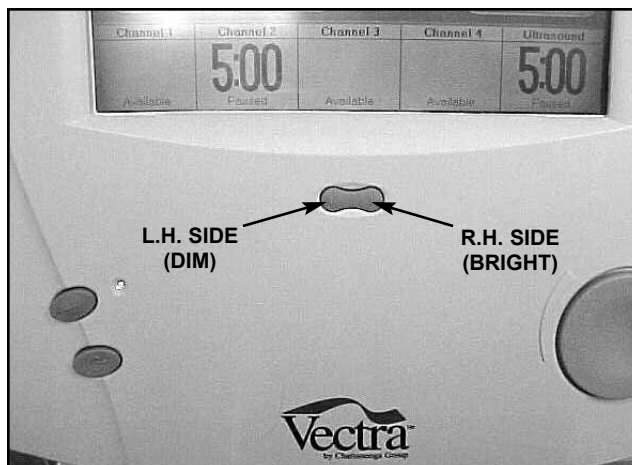

FIGURE 5.31
1. With unit on, press and hold the left side of the Brightness/Contrast Button. See Figure 5.31. Screen should dim.
2. Press and hold right side of the Brightness/Contrast Button. See Figure 5.31. Screen should return to full brightness.